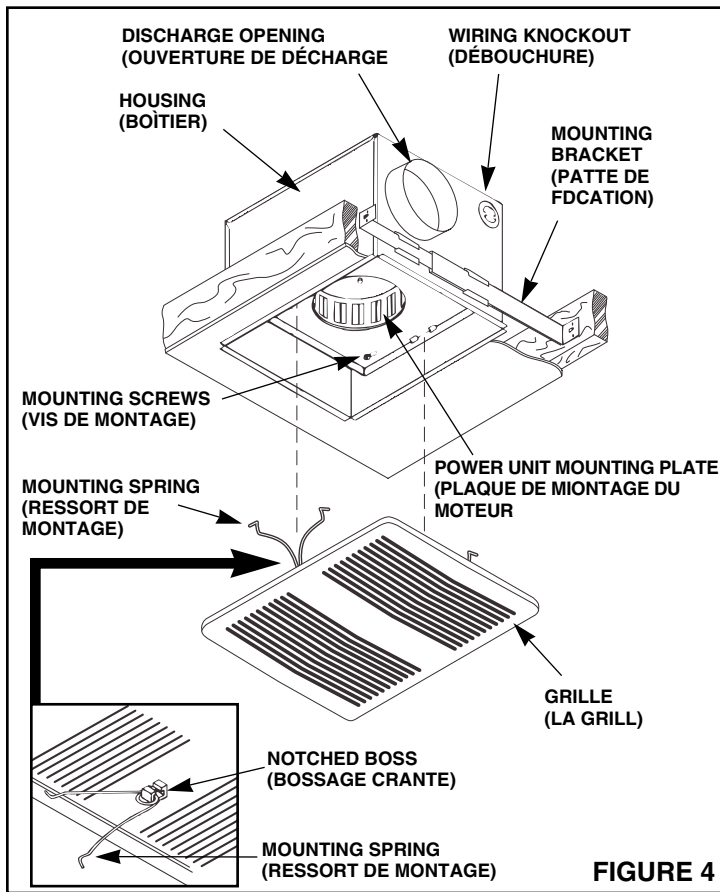

FIGURE 4
- Refer to Figure 4.** Insert mounting brackets at each end of housing.
4. Refer to Figure 4. Securely tighten screws.
1. Refer to Figure 4. Snap grille mounting springs' center loop into notched bosses on the back of grille.